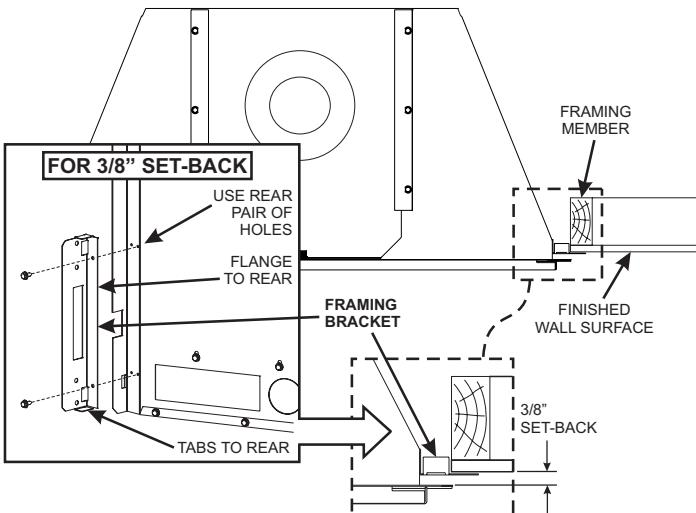

Figure 9a
4. Install the side Framing brackets (1 per side) using the pilot holes provided behind the side flanges on the fireplace outer wrap. Two setback locations are provided for locating the framing brackets depending on which decorative surround is to be installed. See Figures 9a and 9b. The pilot holes in the forward position should be used if installing the fireplace after the finished wall surface is present. The rearward hole position should be used to install the fireplace directly to the framed opening, prior to installing the finish wall surface. The framing bracket locations are based on using 1/2" thick surface finishing materials over the framing. See Figure 9.